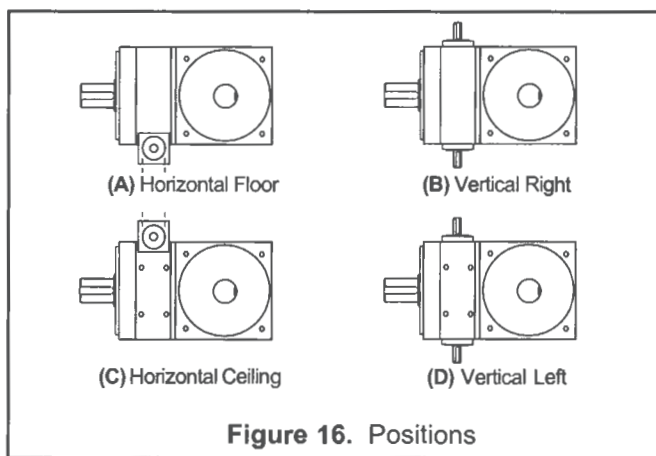

Figure 16. Positions
5. The relative position of the correction shaft can be (A) Horizontal floor, (B) Vertical right, (C) Horizontal ceiling, or (D) Vertical left.
6. Specify the desired assembly by identifying the position of the correction shaft in Figure 16 and the desired bevel gear arrangement in Figure 18 on page 12.